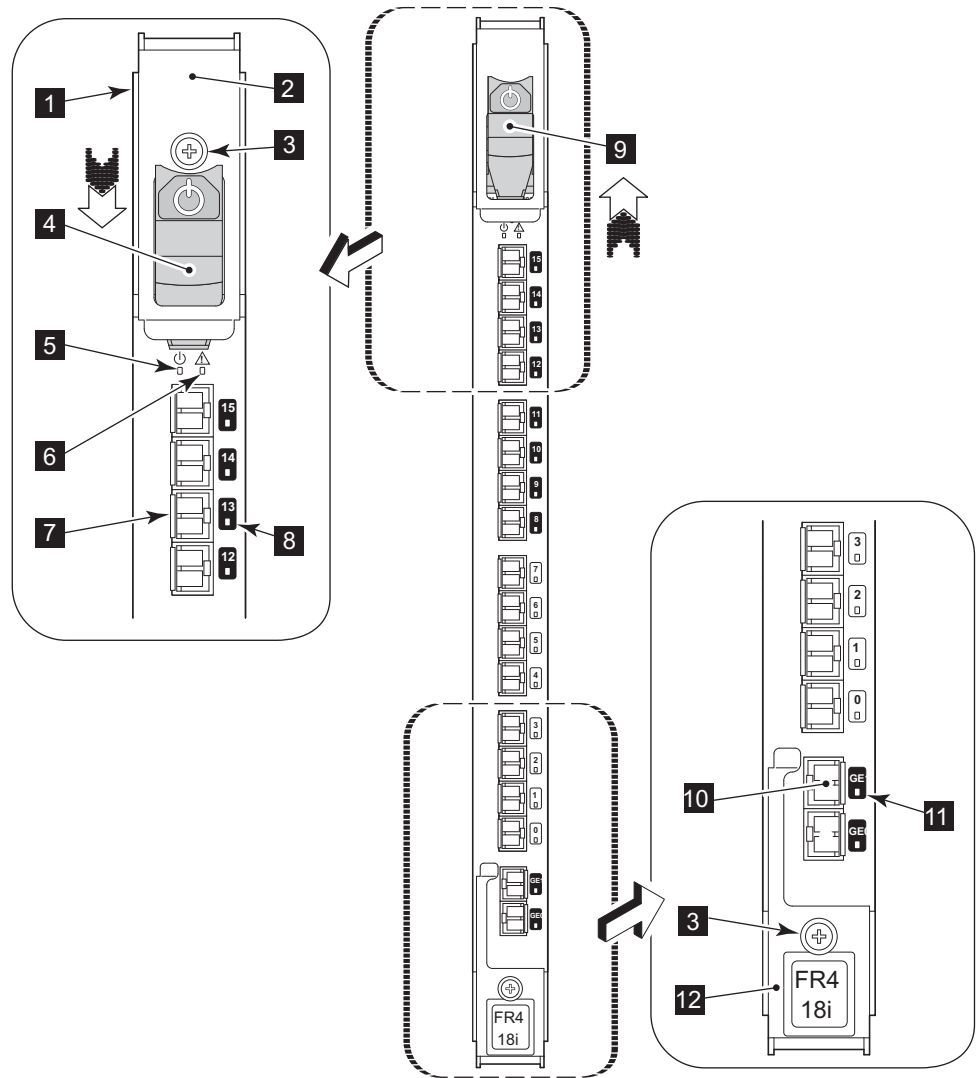

Figure 35. FR4-18i router blade and components
1. Using Figure 35 on page 85 as a guide, check the power LED, status LED, and port status LEDs to identify any possible problems with the router blade.
To install an FR4-18i router blade, complete these steps (refer to Figure 35 on page 85 for blade component locations):
8. Power on the blade using the power switch at the top of the blade ( **9** in Figure 35 on page 85). Keep the blade in an offline (disabled) state until the ports are configured.